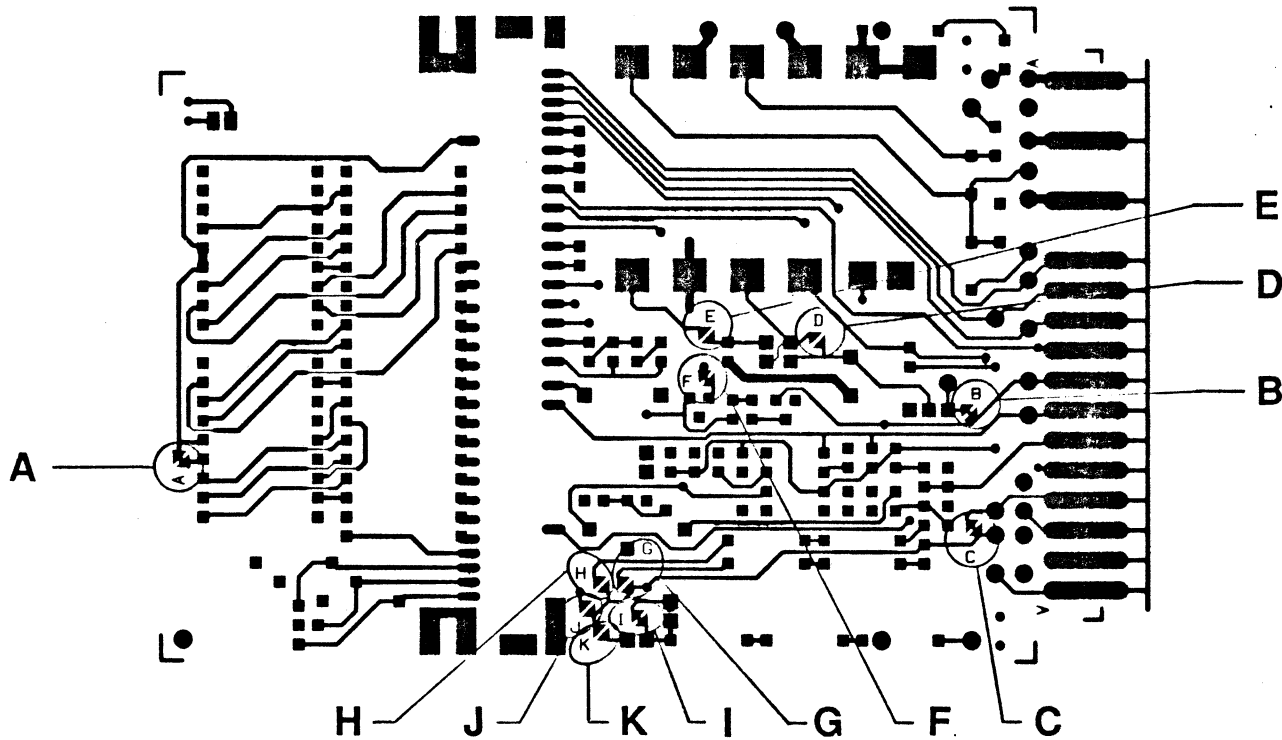

Figure 5-3 Solder Switch Locations
* Refer to Figure 5-3 on the following page for solder switch locations.